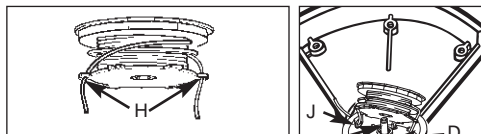

Fig. 15D
6. Lock each end of line into a slot (H) on opposite sides of the spool (Fig. 15D).